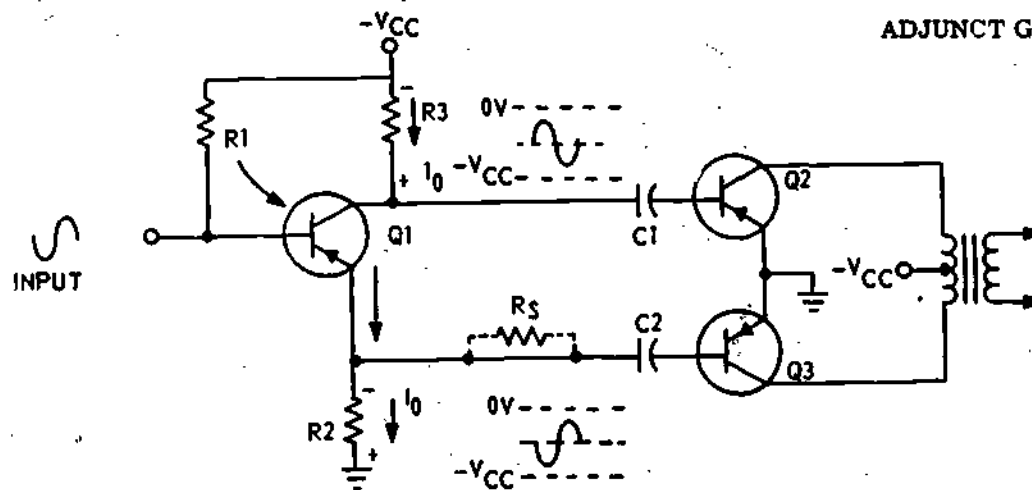

Figure 2. One-Stage Phase Splitter
4. The reason for adding series resistor R_S in figure 2 is to _____.
5. How is the loss of signal voltage across R_S compensated in the circuit in figure 2? _____.